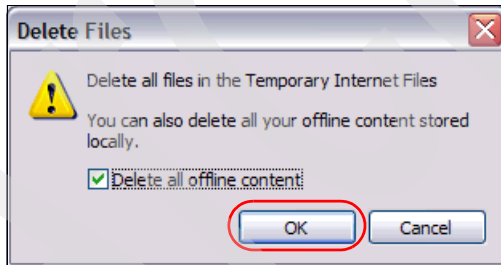

Figure A-26 Confirm delete cache data with IE
- b. To confirm, as shown in Figure A-26, select **Delete all offline content** and click **OK**.